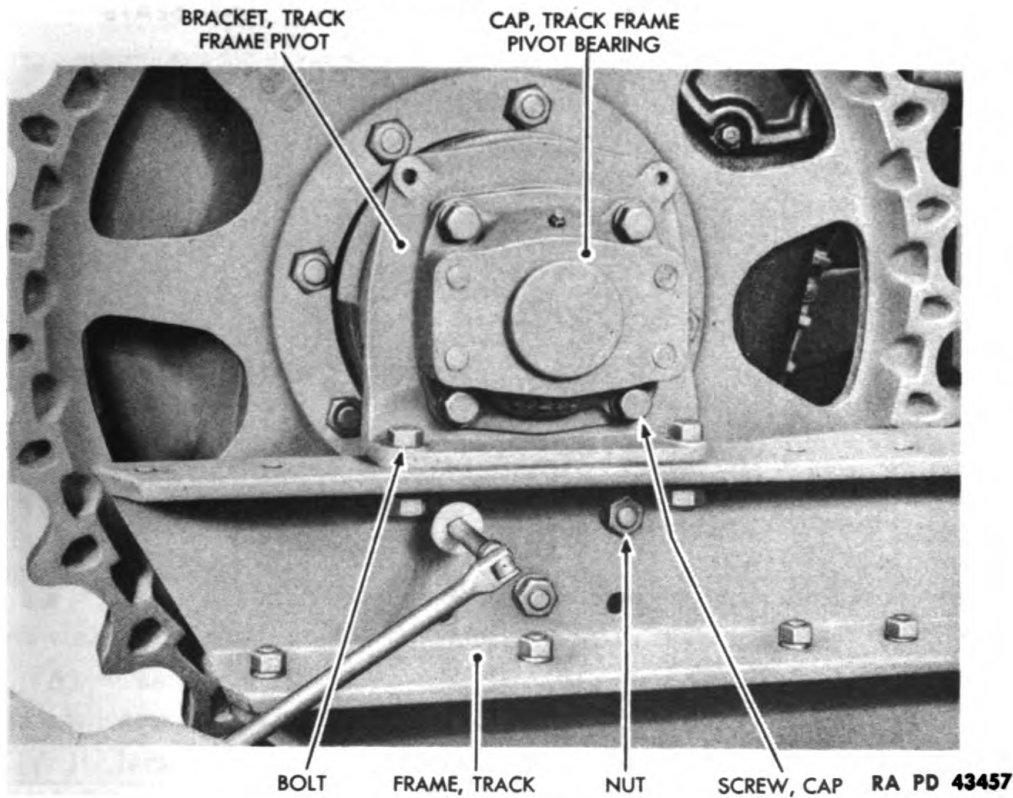

Figure 183 – Disconnecting Track Frame Pivot Bracket from Track Frame
(5) **DISCONNECT TRACK FRAME PIVOT BRACKET FROM TRACK FRAME** (fig. 183).